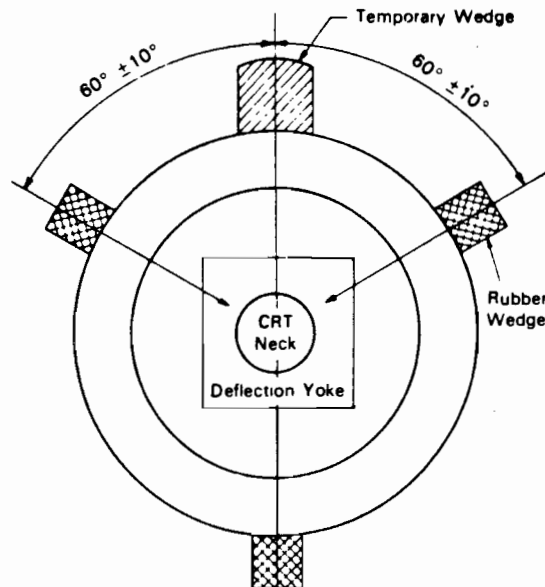

Figure 9
4. Insert three rubber wedges to the position as shown in Fig. 9 to obtain the best circumference convergence.
- 4) The angle of each rubber wedge is shown in Fig. 9.